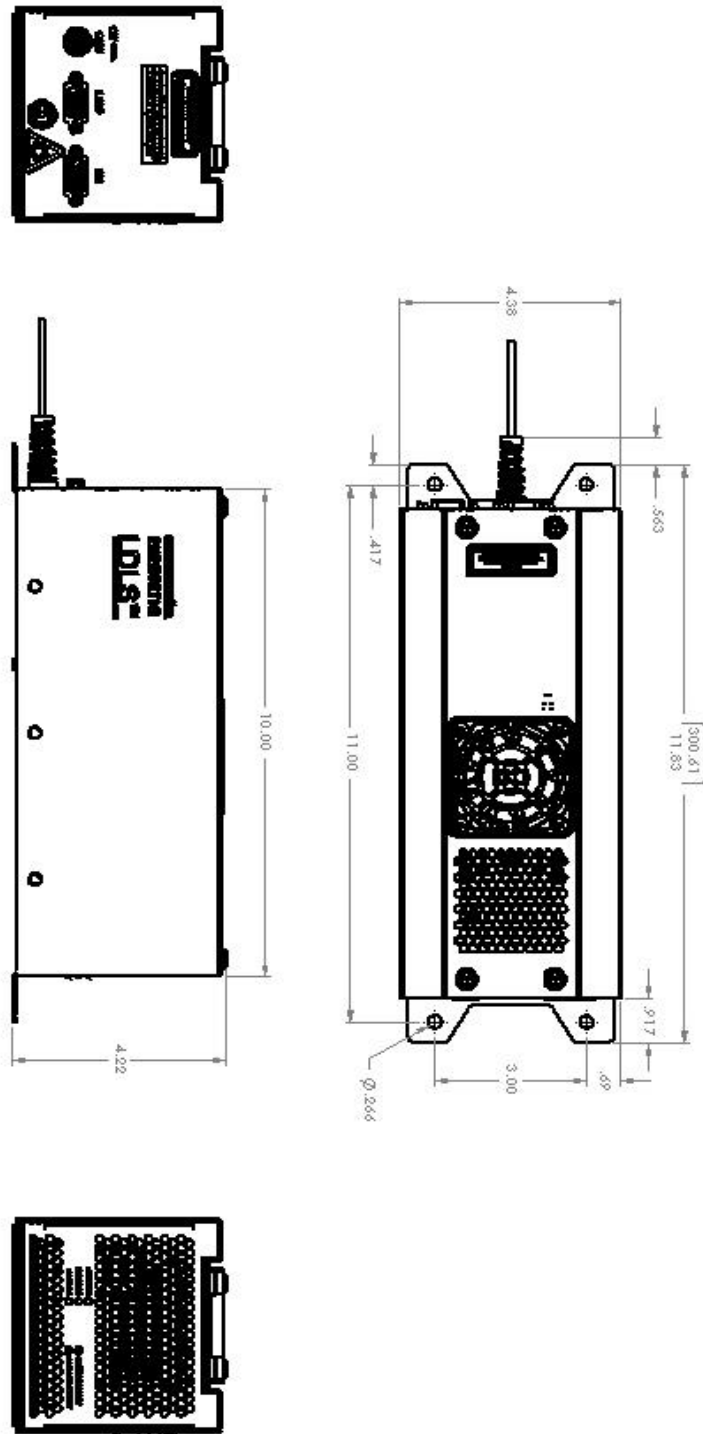

Figure 6: Power Supply Controller mechanical layout
1. Mount the Power Supply Controller unit rigidly to either an optical breadboard plate or another suitable mounting structure using the supplied tabs on the bottom of the chassis. The holes are sized to accept standard 1/4-20 optical bench hardware, and spaced to be compatible with a standard 1” grid mounting hole pattern. See Figure 6 for dimensional and mounting details.